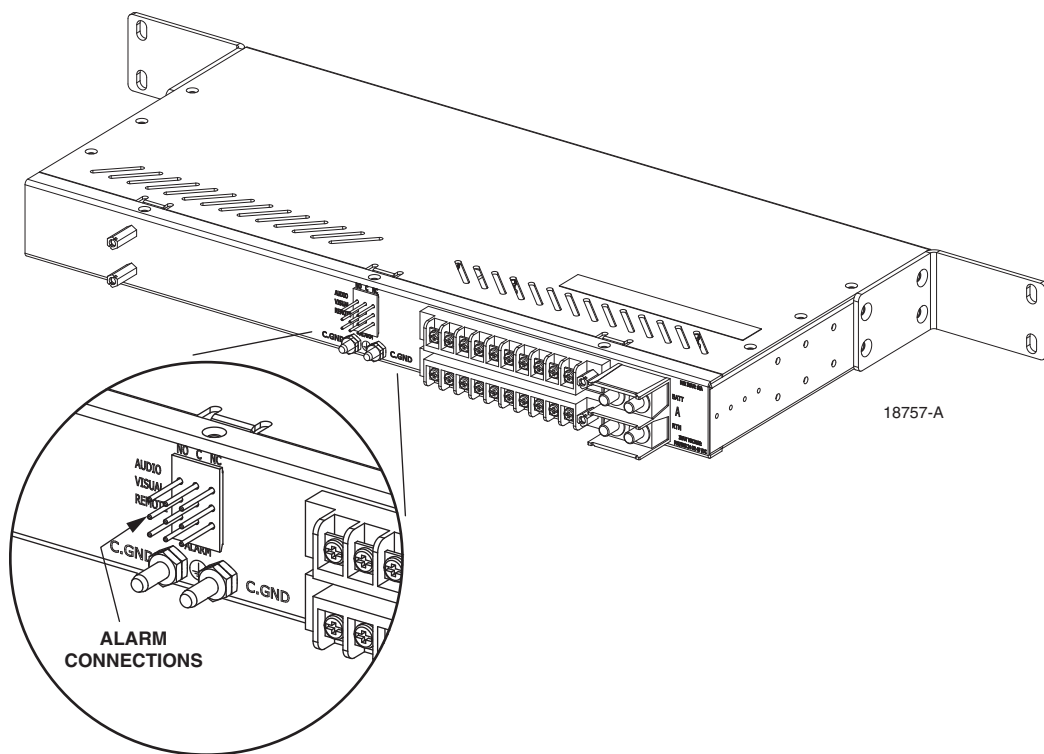

Figure 16. Wire Wrap Alarm Terminals
- Wire wrap alarm terminals, shown in Figure 16.
Use #22 to #26 AWG wire with the insulation stripped back. Refer to Figure 16.